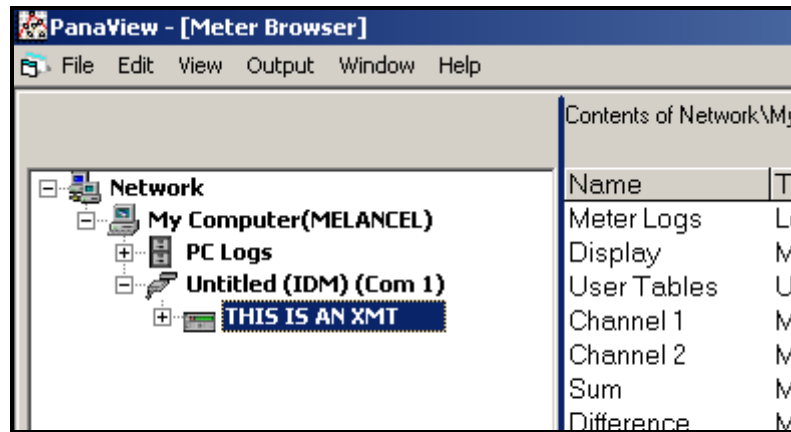
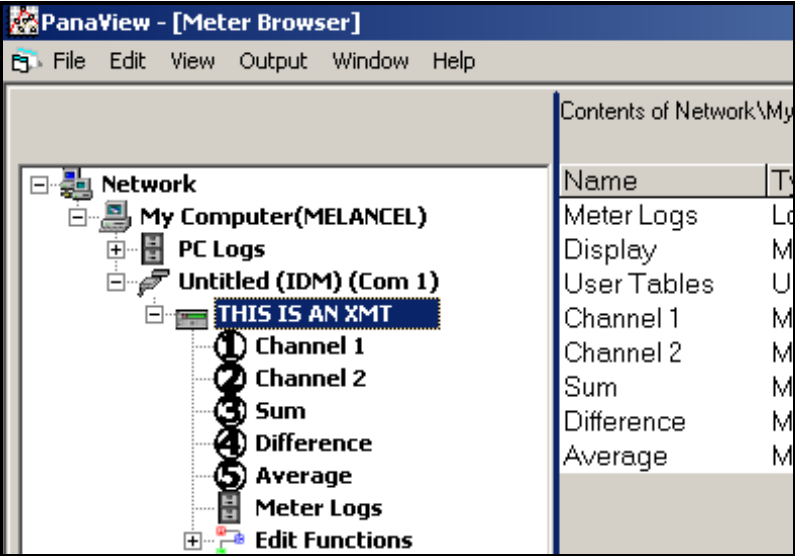

Figure 38: The Updated Network Tree
Figure 40: Meter Tree with *Edit Functions* Option
If the initialization is successful, the Meter Browser shows a listing similar to Figure 38.
- 1. From the meter tree in the *New Meter Browser* (see Figure 38 on page 24), click on the XMT entry. The screen now appears similar to Figure 40.